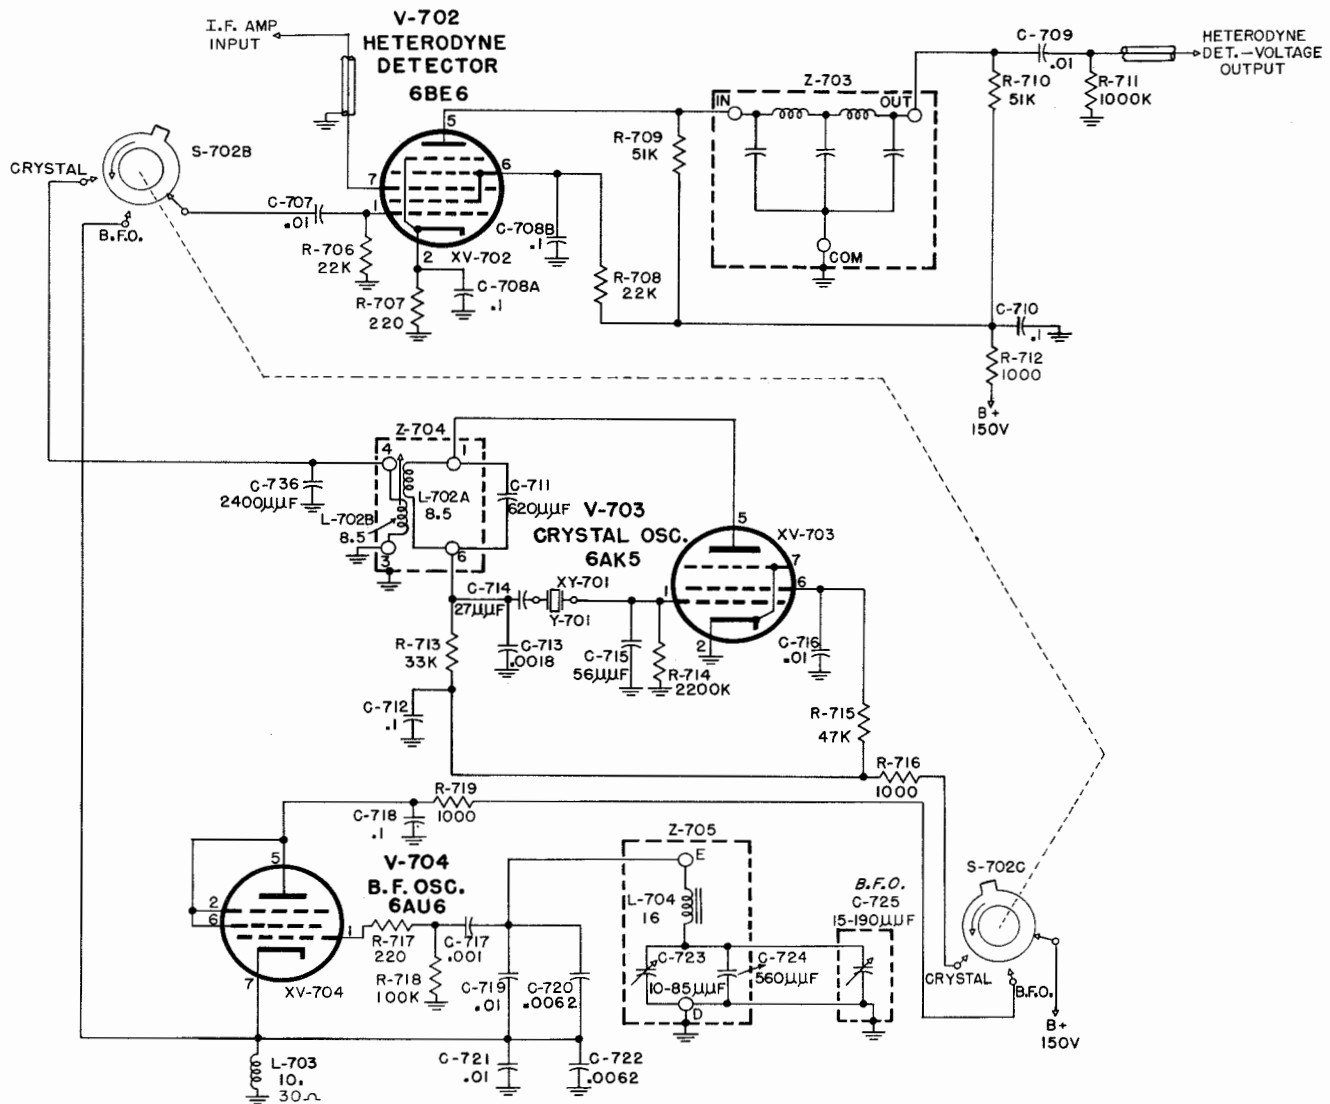

Figure 2-28. Heterodyne Detector V-702, Crystal and Beat Frequency Oscillator V-703 and V-704, Simplified Schematic Diagram
(2) HETERODYNE DETECTOR V-702, CRYSTAL AND BEAT FREQUENCY OSCILLATORS V-703 AND V-704 (AM-439/FRR-24). (See Figure 2-28).—The 50-